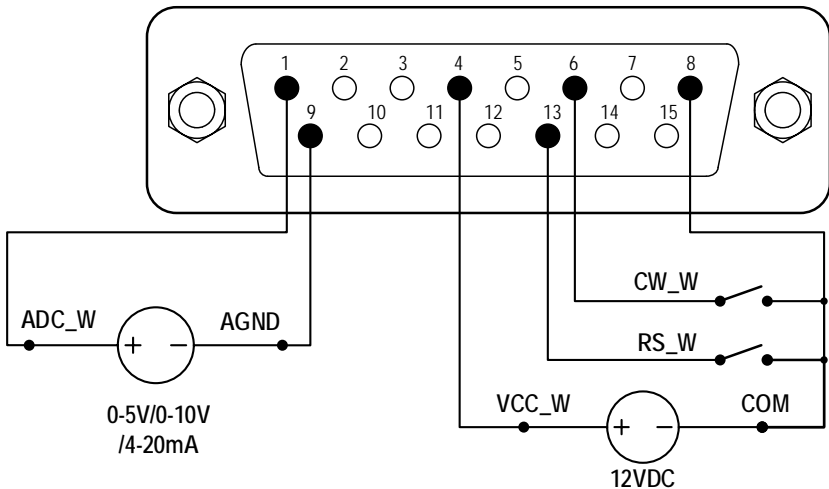

Figure 11. DB15 Wiring with External 12VDC Power Source
- 1) Switch the power off. Wire the DB15 connector as shown on Figure 11 or Figure 12, and connect it to the DB15 port on the rear of the pump.